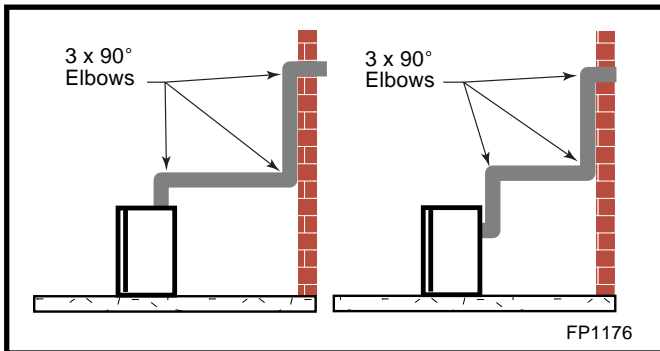
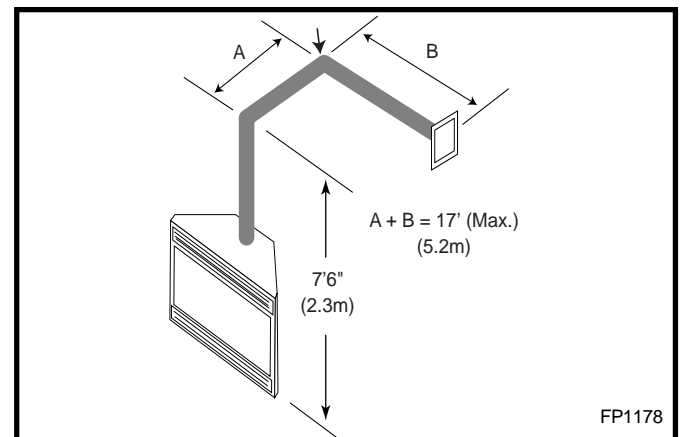

Fig. 24 Maximum three (3) 90° elbows per installation.
Fig. 26 Horizontal run reduction.
- The maximum number of 90° elbows per side wall installation is three (3). (Fig. 24)
- If a 90° elbow is used in the horizontal vent run (level height maintained) the horizontal vent length is reduced by 36" (914mm). (Fig. 26 & 27) This does not apply if the 90° elbows are used to increase or redirect a vertical rise. (Fig. 24)
Example: According to the vent graph (Page 13) the maximum horizontal vent length in a system with a 7½' (2.3m) rise is 20' (6m) and if a 90° elbow is required in the horizontal vent it must be reduced to 17' (5.2m). In Figure 26 & 27, dimension A plus B must not be greater than 17' (5.2m)